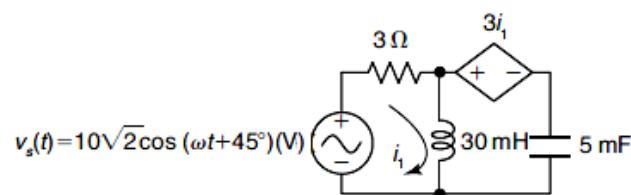

Figure:3
4. For the circuit shown in figure3, find $i_1(t)$ for $\omega = 100 \text{ rad/sec}$. [15]